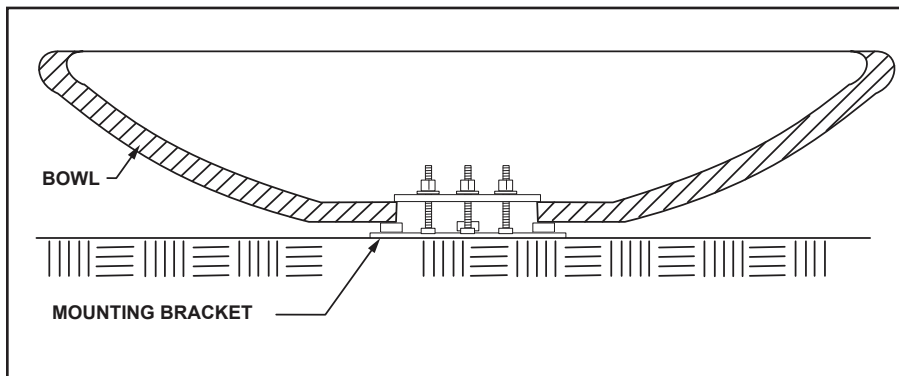

Figure 3. Maintenance
2. 48"Essex and 45"Cielo and 42" Legacy require a Grand Effects® Mounting Bracket to be installed. The Mounting Bracket secures bowl and allows for cooling air and water drainage. Install the mounting bracket as shown in Figure 3. The mounting bracket should be secured using three bolts.
Frequently inspect the gap between the base of the bowl and the mounting bracket. It should be kept free of dirt and debris that may restrict cooling air and drainage. See Figure 3.